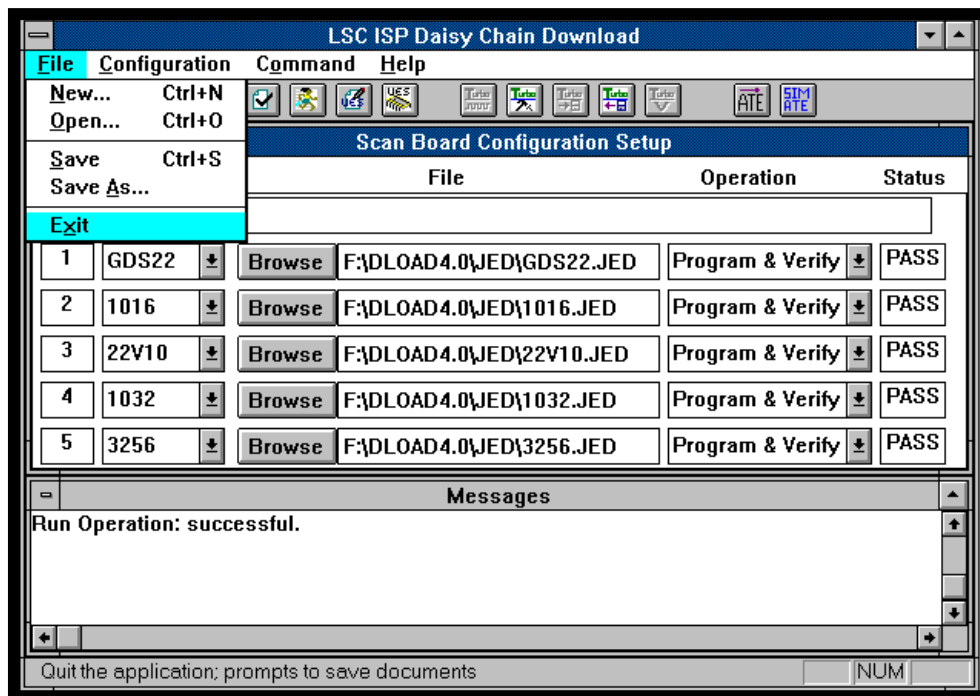
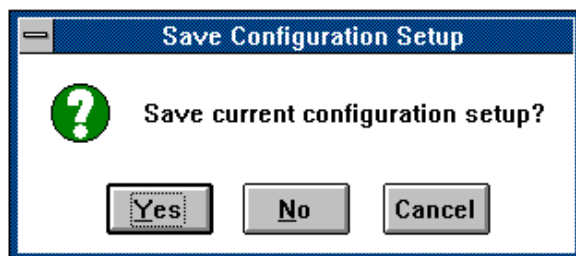

Figure 3-36. **File** ⇒ **Exit** Menu Option
Figure 3-37. Save Configuration Setup Dialog Box
1. Select **File** ⇒ **Exit** from the ISP Daisy Chain Download menu (Figure 3-36). The Save Configuration Setup dialog box appears (Figure 3-37), if you have not saved this file.